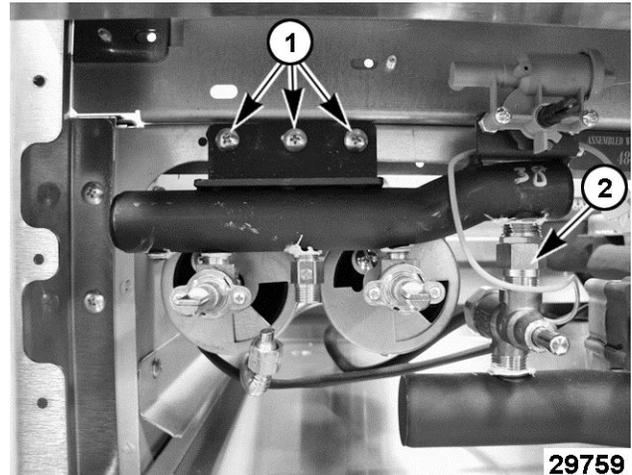

Fig. 88
8. Remove gas manifold from frame (1, Fig. 88).
9. Disconnect safety valve compression nut (2, Fig. 88) from tube adapter on gas manifold then remove safety valve from gas manifold.